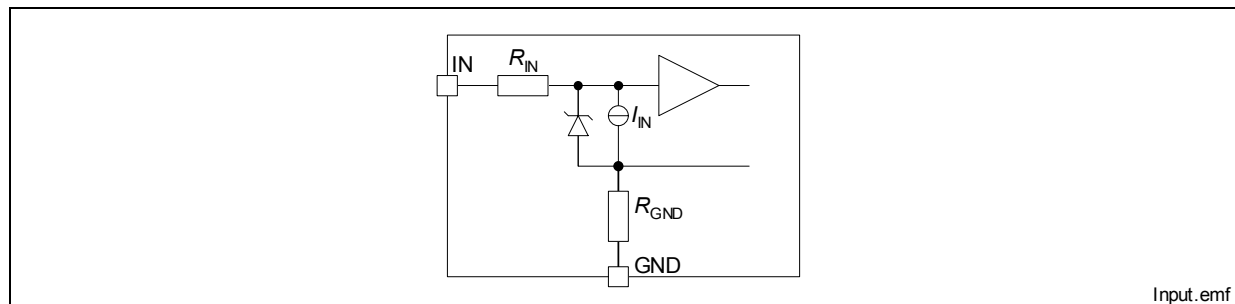

Figure 5 Input Circuit (IN1 and IN2)
**Figure 5** shows the input circuit of the BTS 5234L. There is an integrated input resistor that makes external components obsolete. The current sink to ground ensures that the device switches off in case of open input pin. The zener diode protects the input circuit against ESD pulses.